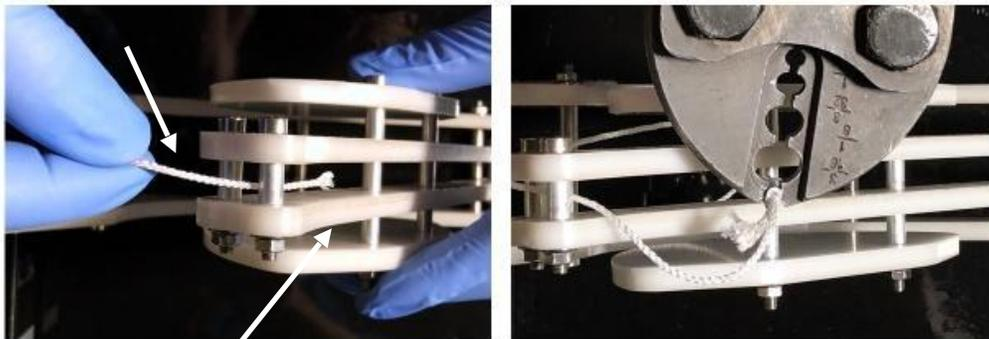

Figure 24
Step 51: Take the free end of the **twine [Part 28]** and feed it through the opening between the two **spacers [Part 5]** at the top of the lever arm assembly and loop it around the next **spacer [Part 5]** (Fig. 24).
Step 52: Tie off the looped **twine [Part 28]** using an aluminum ferrule and crimping tool (Fig. 24).